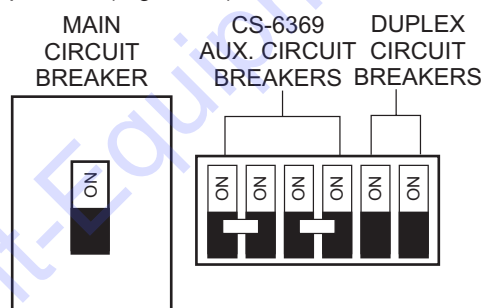

Figure 53. Main, Aux. and GFCI Circuit Breakers (ON)
10. Place the **main, GFCI, and aux.** circuit breakers in the **ON** position (Figure 53).